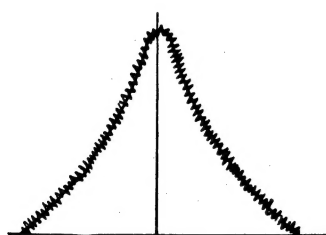

Fig. 14
**Note 1.:** Adjust T3, T4 and T5 to get maximum gain and symmetry in IF response as shown in Fig. 14.